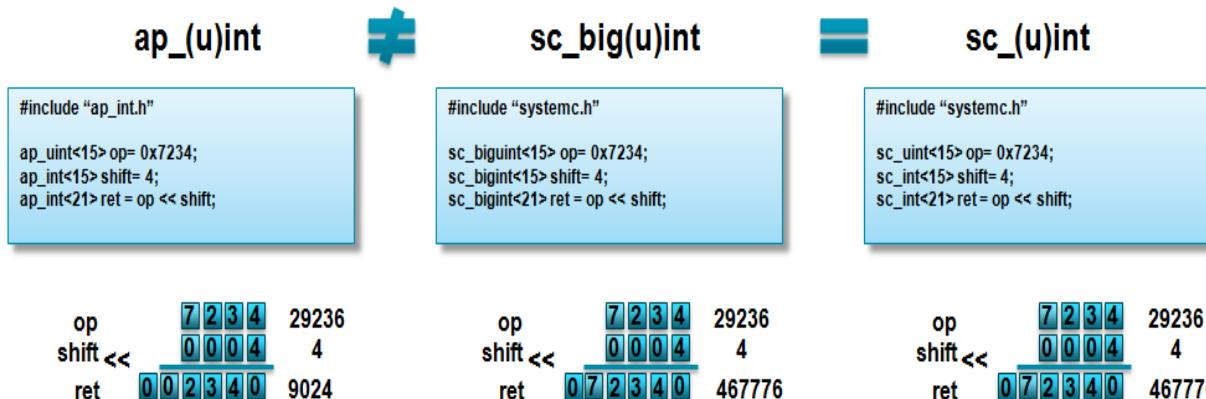

Figure 4-19: Over-Shift Left Differences
- Figure 4-19 shows an example of this operation for both Vivado HLS and SystemC types.